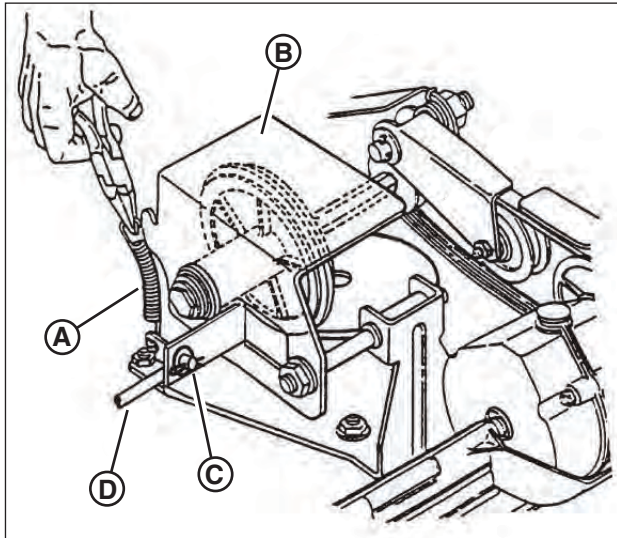

Figure 27: Adjusting the driven disc
2. Remove the driven disc spring (A, **Figure 27**) from the driven disc assembly (B). Also remove the pin and washer (C) from the transfer rod (D), and remove the end of the transfer rod from the hole in the driven disc assembly.
1. Remove the pin and washer (C, **Figure 27**) from the transfer rod (D), and remove the end of the transfer rod from the hole in the driven disc assembly.